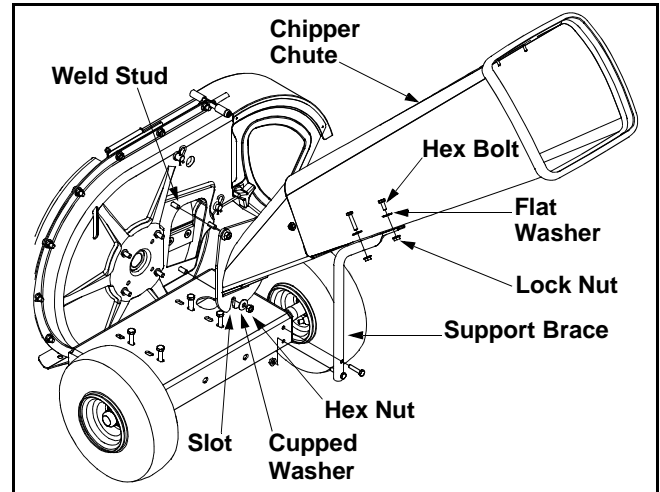

Figure 4
- Remove the three cupped washers and hex nuts from weld studs besides the opening on the side of the impeller housing. See Figure 4.